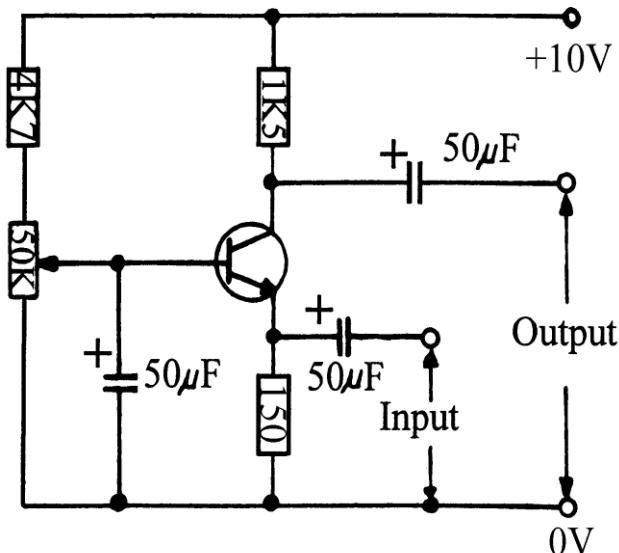

Figure 2
- Construct the circuit shown in Fig. 2.